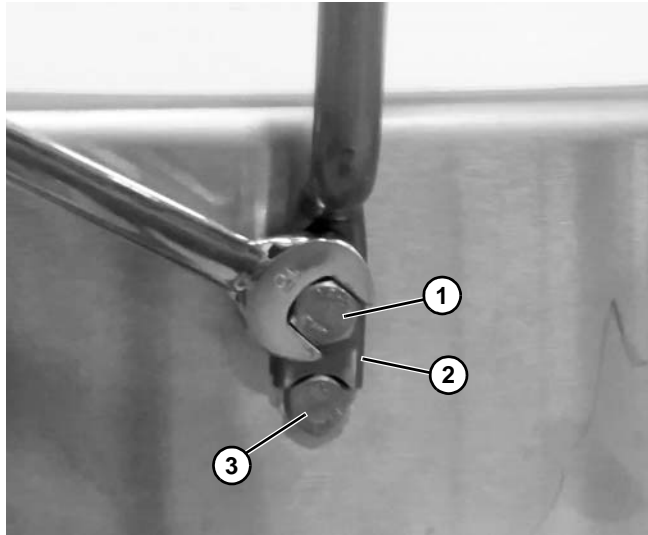

Figure 39
1. Remove the top screw (**Figure 39, item 1**).
2. Install the guide post (**Figure 39, item 2**) resting on lower screw (**Figure 39, item 3**). Reinstall top screw and tighten.